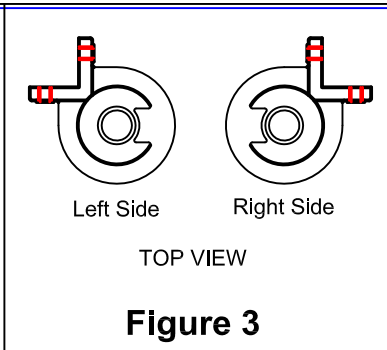

Figure 3
THERE IS ONE V-CAM PER PANEL. THE V-CAMS ① CAN BE IDENTIFIED IN FIGURE 3, AND ARE ALSO MARKED ON THE BOTTOM OF THE PART WITH AN "L" (for Left) OR AN "R" (for Right). CALL OUR CUSTOMER SERVICE DEPARTMENT IMMEDIATELY IF YOU DO NOT HAVE THE PROPER V-CAMS FOR YOUR APPLICATION.